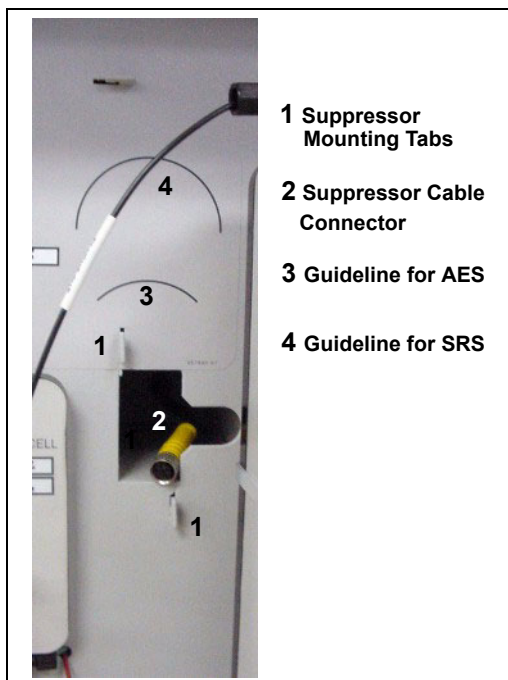

Figure 19. Suppressor Mounting Tabs and Guidelines
1. Locate the suppressor mounting tabs on the component panel (see Figure 19). Reach into the opening between the tabs and pull the yellow connector and attached cable slightly out of the opening.
5. Align the top of the suppressor with the guideline printed on the component panel (see Figure 19) and align the slots on the rear of the suppressor with the tabs on the panel.